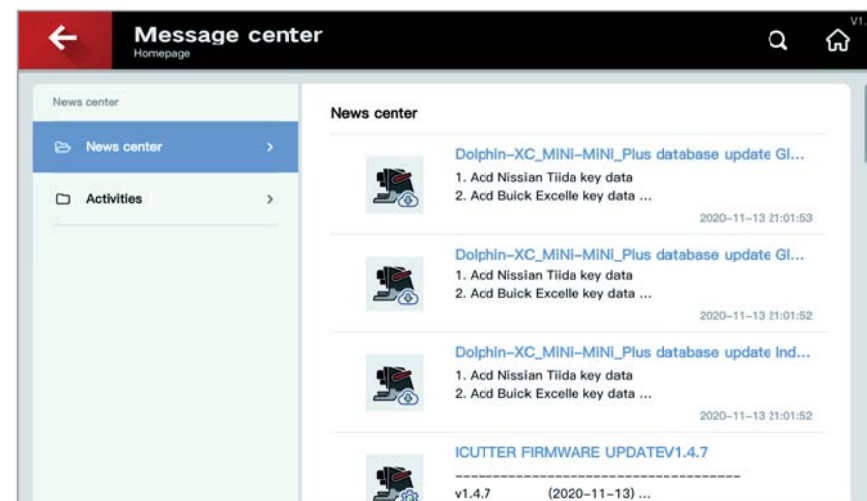

Fig.4.1.2
**News (Message) center:** Click the icon to get the latest update information. See Fig. 4.1.2